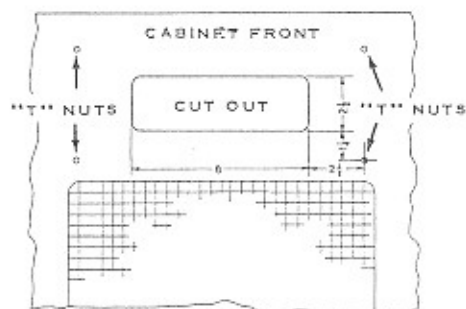

Figure 2. Cabinet Opening
2. If no cabinet opening has been provided under the Auto-Speed Unit, cut as shown in Figure 2.